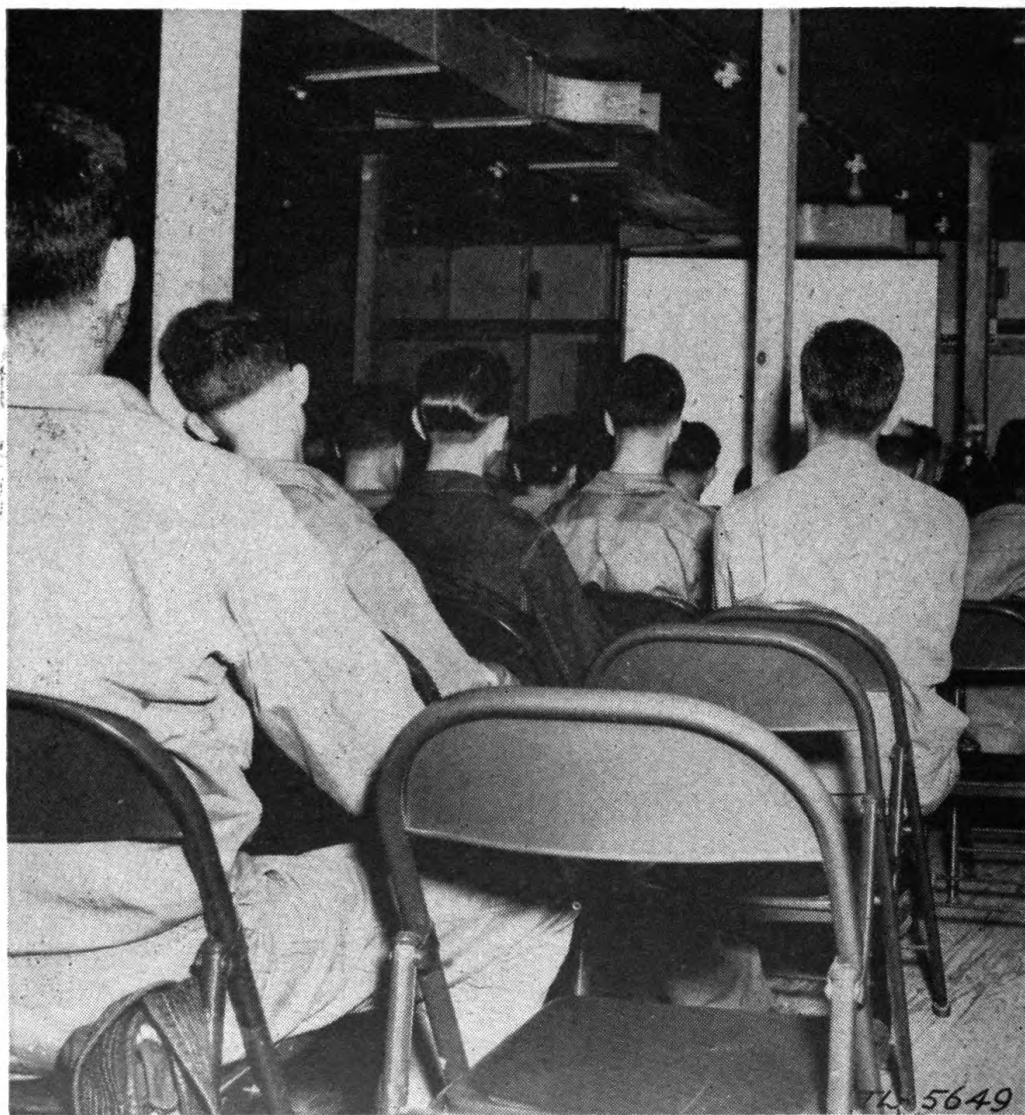

FIGURE 38.—Posts obstruct view of screen.
(2) In rooms containing posts, the seats outside the line of posts should not be used. Posts block the view from side seats. (See fig. 38.)
b. Window shading.—(1) Blackout curtains, canvas, or blankets may be used to shade windows temporarily. Rooms used permanently for film showings may be darkened by painting the windows black. Rear windows need not be shaded. Windows hinged at the